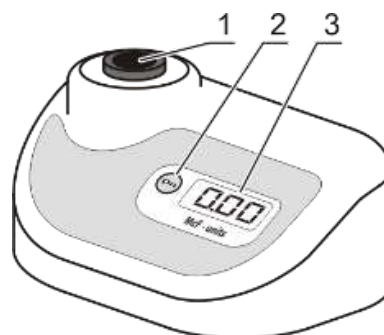

Figure 2. Front view
2.6.2. Transparent standard. Display shows 0.00. Insert standard for 0.00 value into the socket (fig. 2/1) of the unit. If the standard for 0.00 value is not available, fill the tube (of the kind that is used for operations) with distilled water. Use the tube as the 0.00 value standard. Press **Install** button to save empty socket value. Display shows next required calibration value.
2.7. Common calibration rules. Display shows indication of necessary calibration value. Insert the necessary standard into the socket (fig. 2/1) of the unit and press the **Install** button to save the value for current standard.